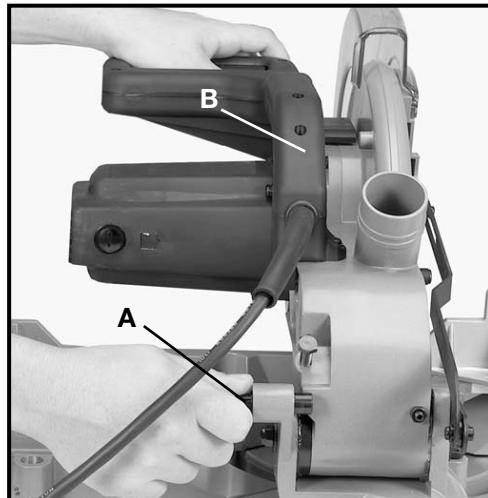

Fig. 4
- 1. Pull out cuttinghead lockpin (A) Fig. 4, and move the cuttinghead (B) to the up position.